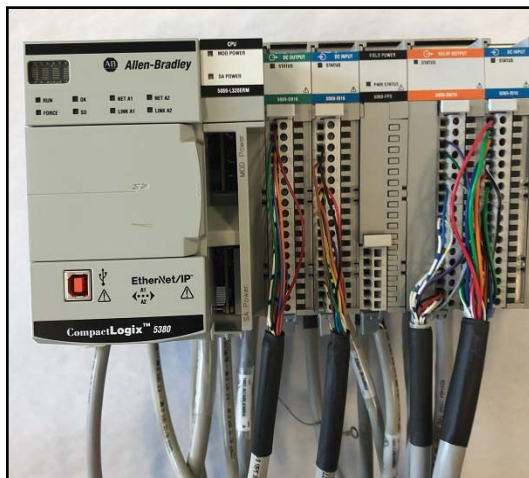

Figure 9b
- b) Repeat step a until all conversion module terminal blocks have been connected. (See Figure 9b) Please refer to the label placed on the conversion module in step 2d. It is very important that the conversion modules are connected to the correct 5069 I/O card as there may be different voltages applied.